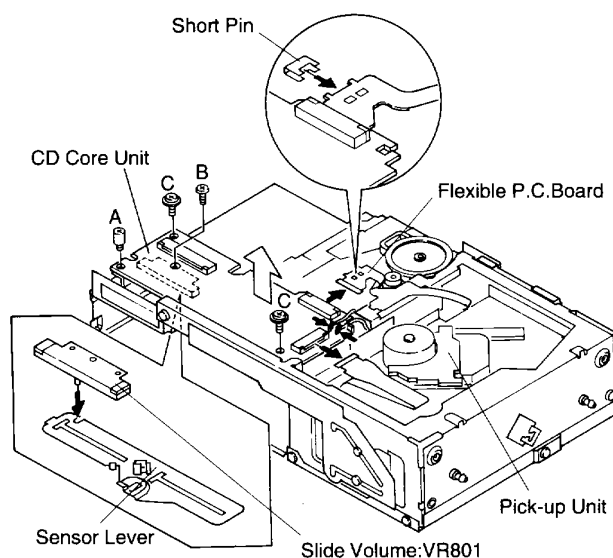

Fig.2
1. Attach the Short Pin onto the Flexible P.C.Board of the Pick-up Unit.(Fig.2)
2. Remove the Flexible P.C.Board from the connector.(Fig.2)
### ● Removing the CD Core Unit (Fig.2)